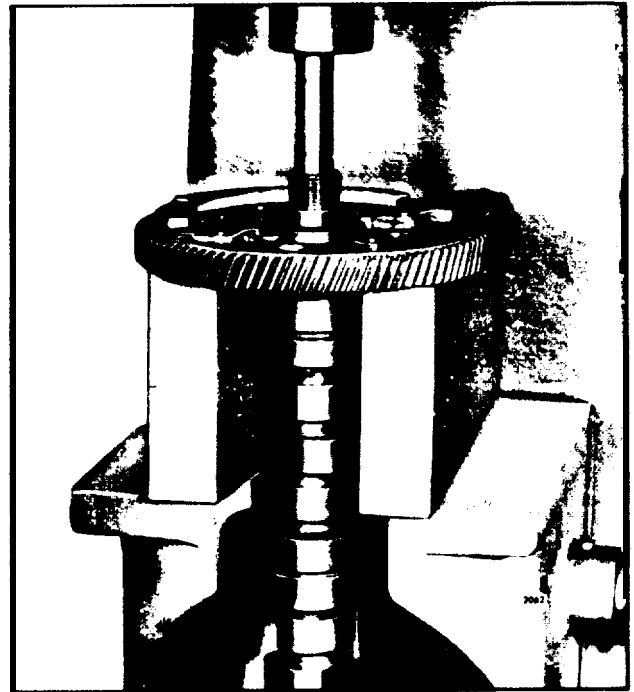

Fig. 1 Removing Camshaft Gear
2. Place the camshaft and gear assembly in an arbor press with the gear suitably supported as shown in Fig. 1.